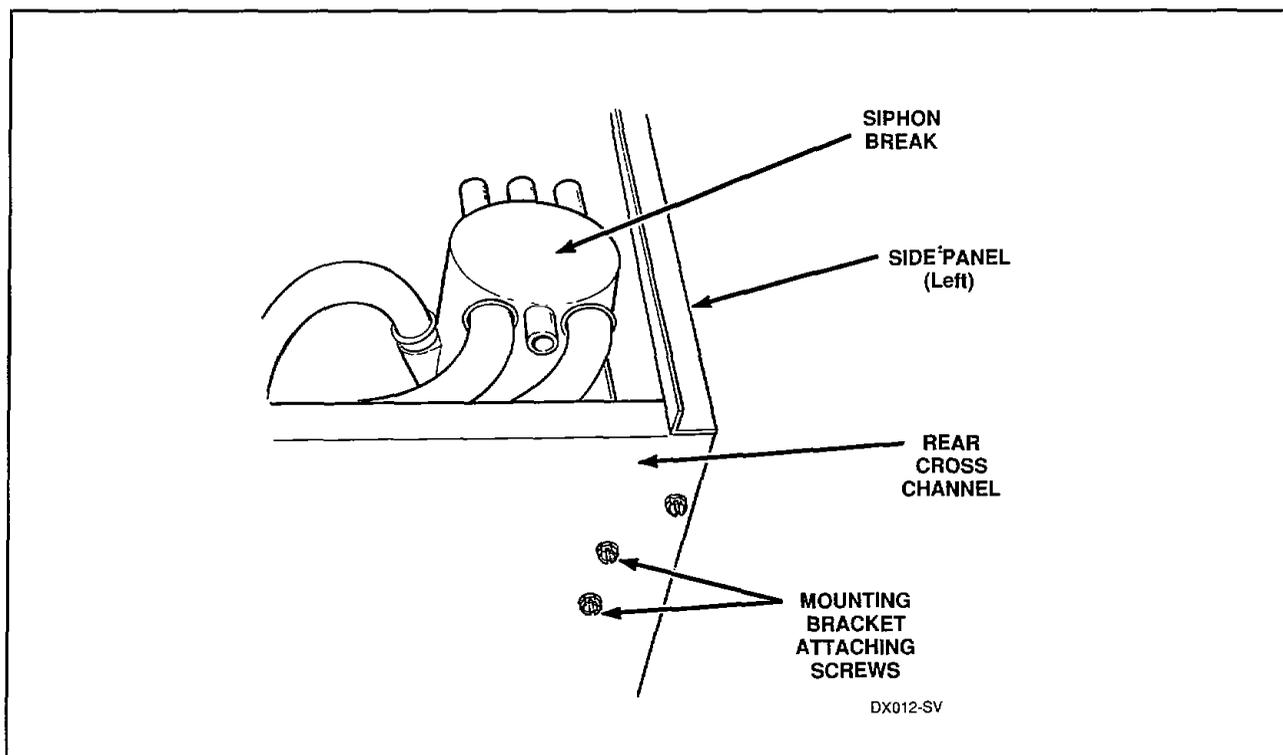

Figure 18
- Remove two screws holding siphon break and bracket to rear cross channel, *Figure 18*.